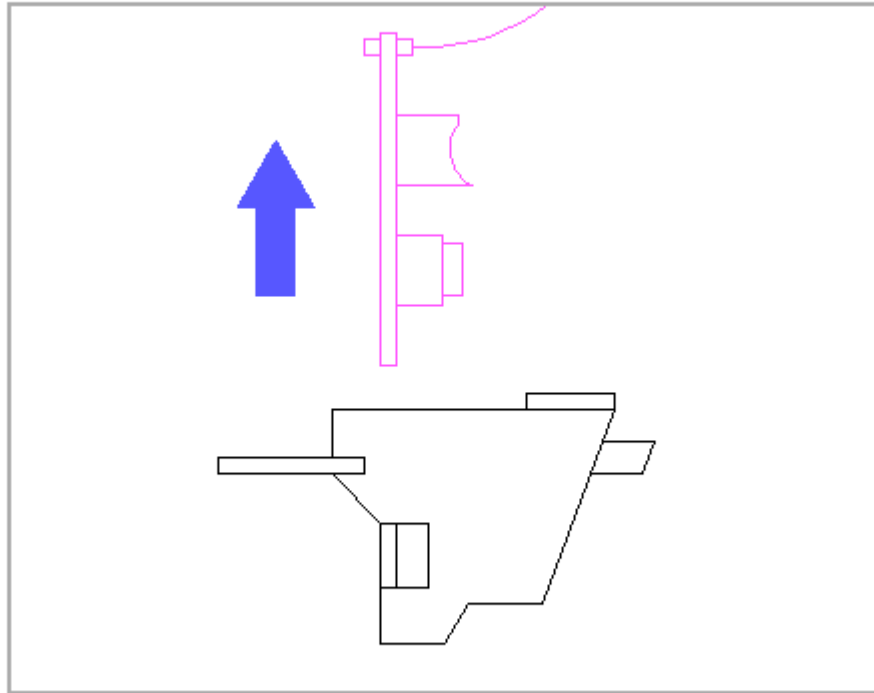

Figure 9-52. Removing the Switch Board from the Switch Frame
5. Slide the switch board out of the switch frame (Figure 9-52).